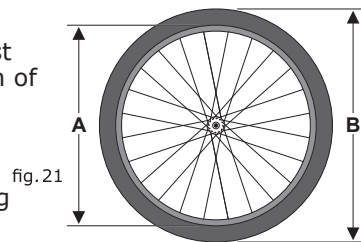
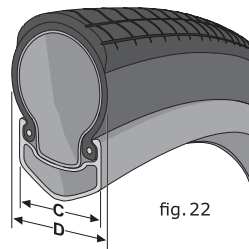

fig. 21
fig. 22
**3. TIRE AND RIM WIDTH/DIAMETER:** Wheel rims and tires come in a wide range of diameters [fig. 21] and widths [fig. 22]. The nominal diameter of the rim (A) must match the nominal diameter of the tire (B), and the width of the rim (C) must be compatible with the width of the tire (D).